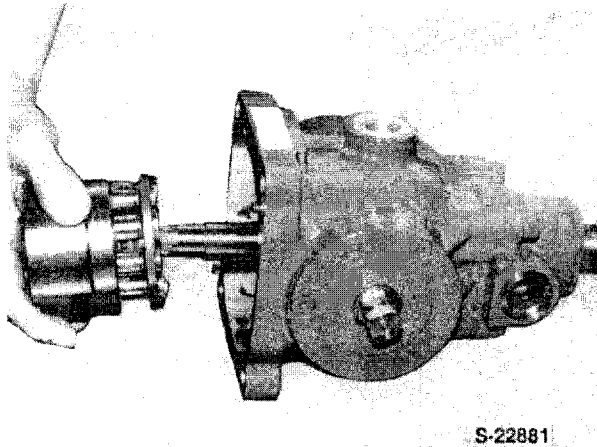

Figure 62
5. Install the assembled pump assembly onto the input shaft, Figure 62.